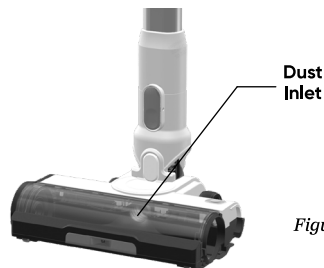

Figure 3.9
3. Check the brush dust inlet for blockages and clear any if found. **[Figure 3.9]**